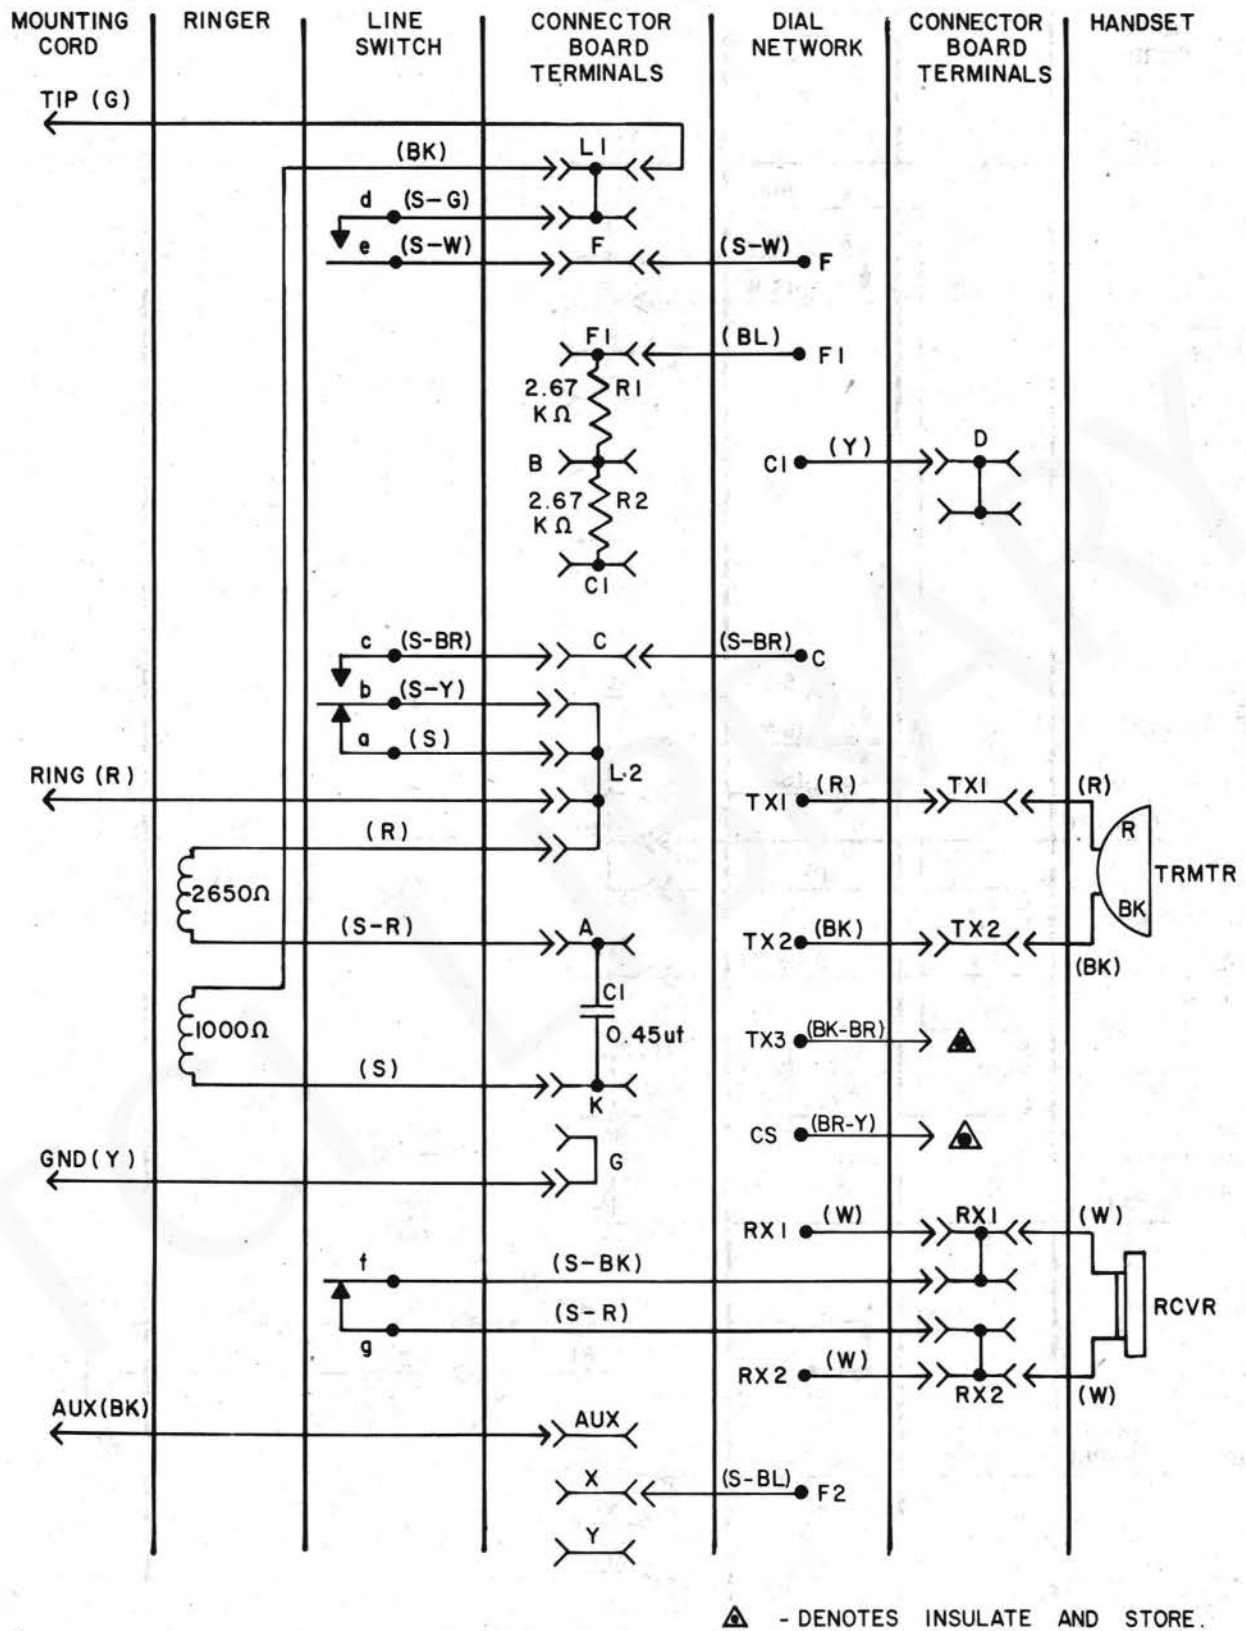

Fig. 5- Wiring Diagram for QSKE2500A Telephone Set
4.01 The connection information for the QSKE2500A and QSKE2500B telephone sets are shown in Table B, Fig. 5 and Fig. 5a.
4.06 The 2500A-type ePhone telephone sets are equipped with three conductors which are for future options. Two of these conductors are dead dressed and one conductor connected to a spare quick connect terminal. (refer to Fig. 5 and 6).